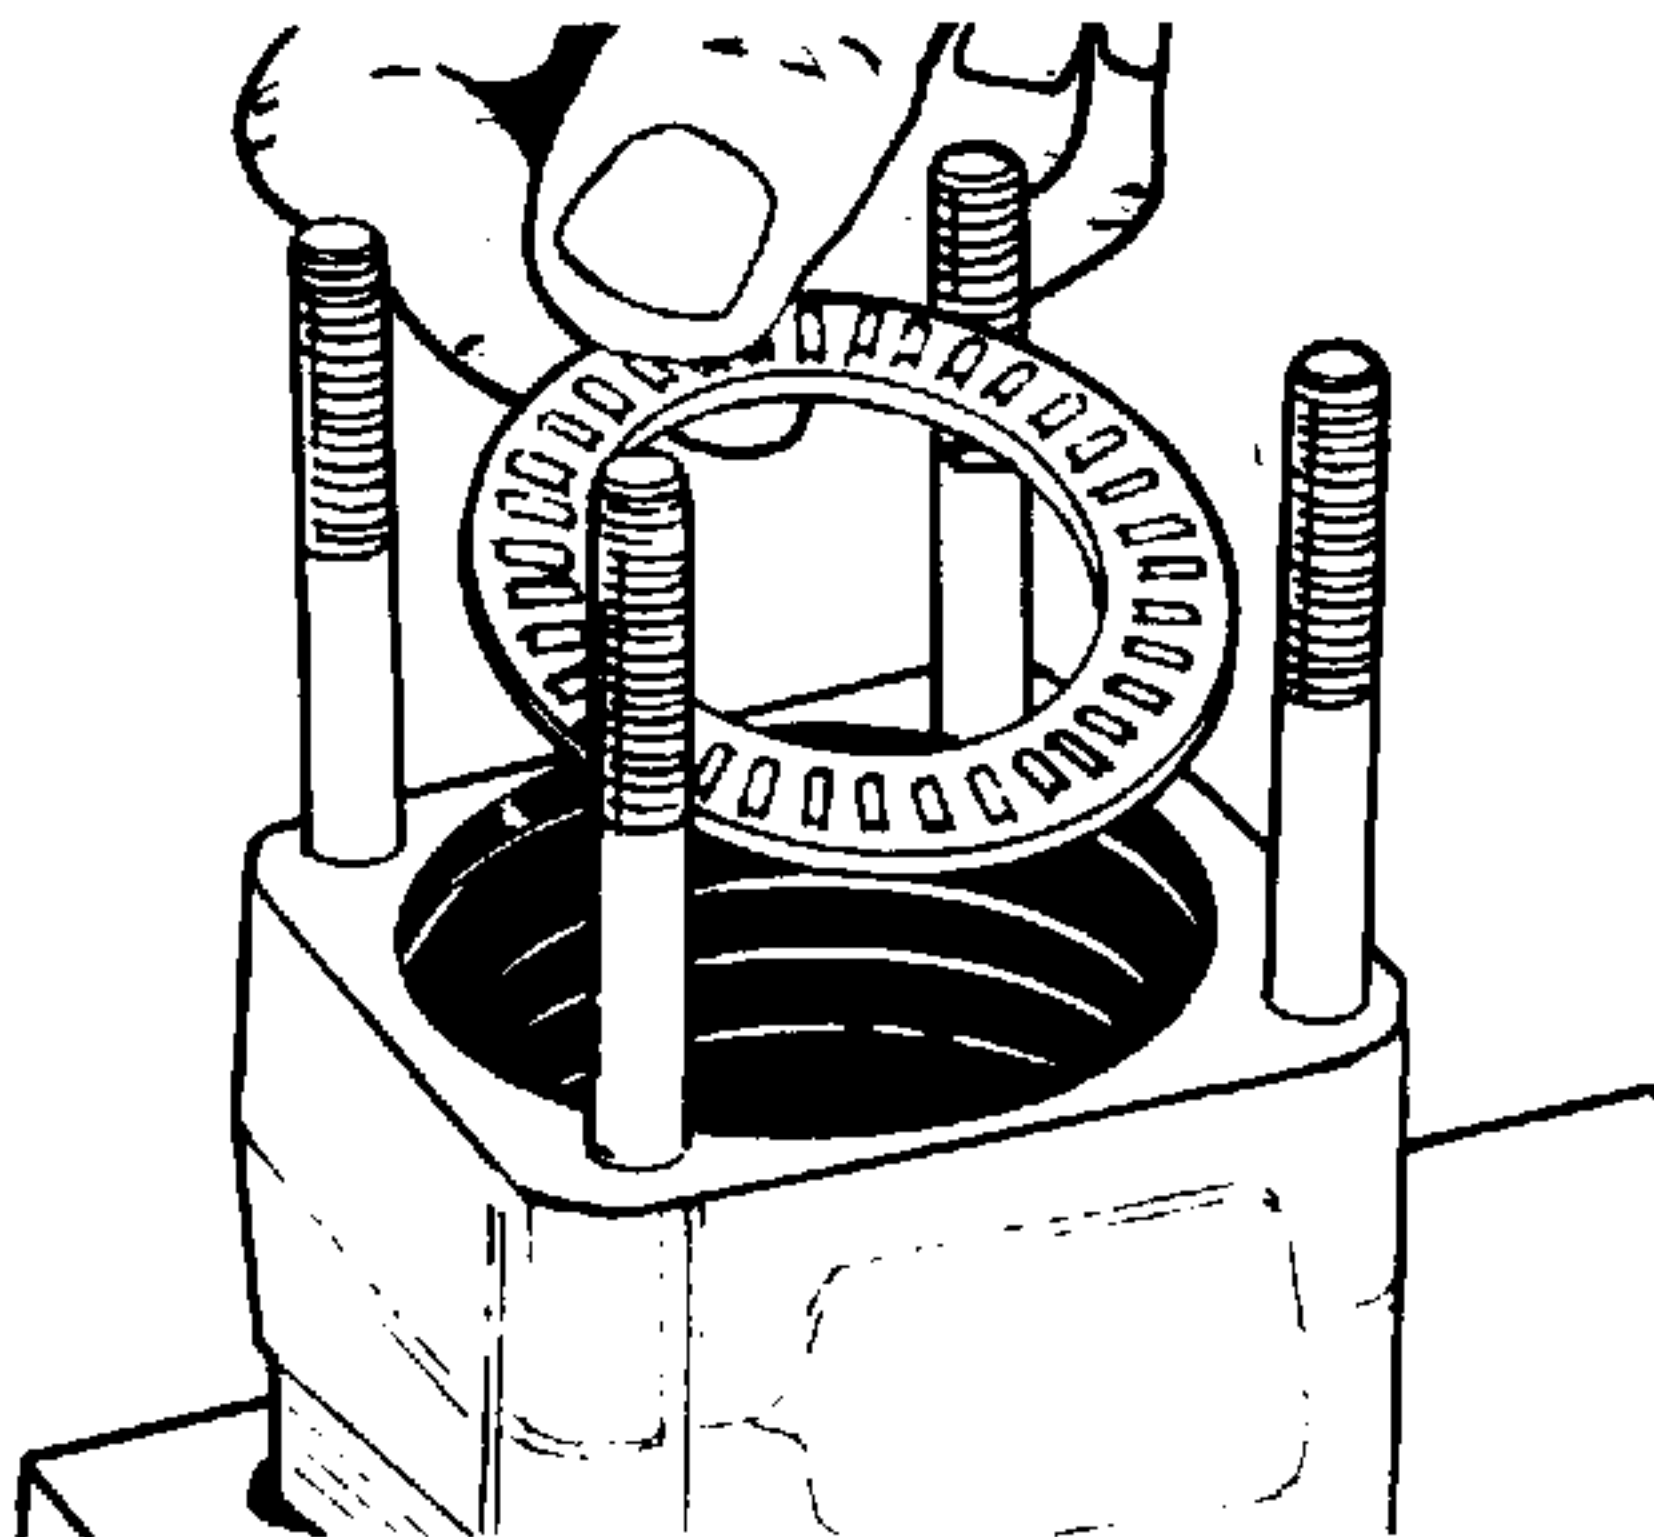

Figure 4-71. Installing Thrust Bearing.
24. Lightly grease roller thrust bearing (26, Figure 4-1), and place it on the upper cover plate (30) inside the bearing spacer (25). See Figure 4-71.